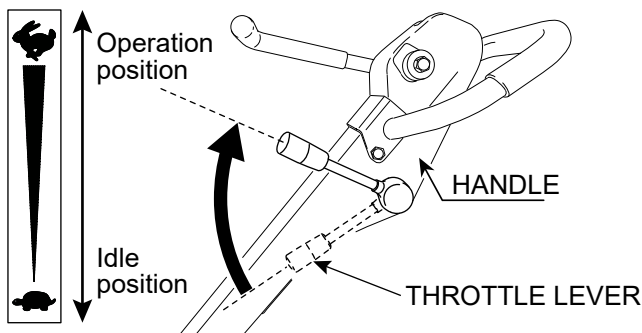

Figure 16. Throttle Lever (Operation Position)
1. Once the engine has started, move the engine throttle lever quickly to the **operation** position (Figure 16).